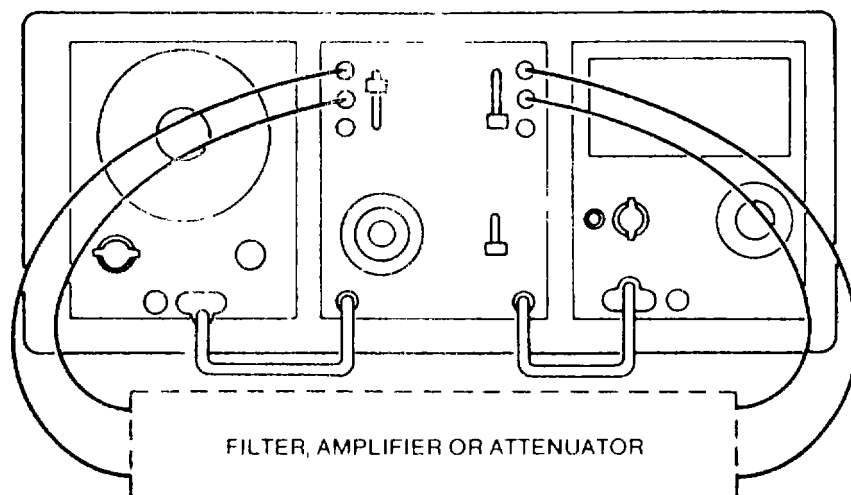

Figure 2-5. Filter, amplifier, and attenuator tests (connection diagram)
Start the equipment and perform the following for measuring characteristics of filters, amplifier, or attenuators (figure 2-5).
- If the telephone line has a dc potential, install a holding coil and blocking capacitor assembly (figure 2-5) to isolate the attenuator and to complete the dc path for common battery circuits.